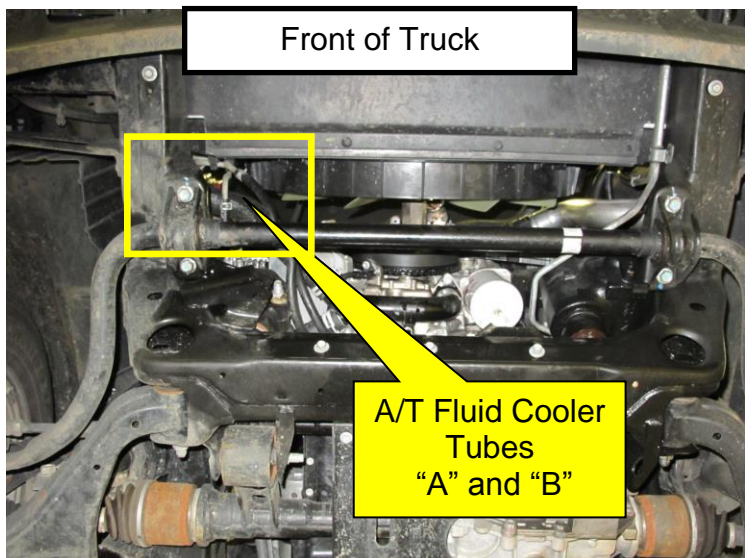

Figure 5
5. Locate the A/T fluid cooler hose "A" and "B" connections at the front passenger side of the truck (Figure 5).